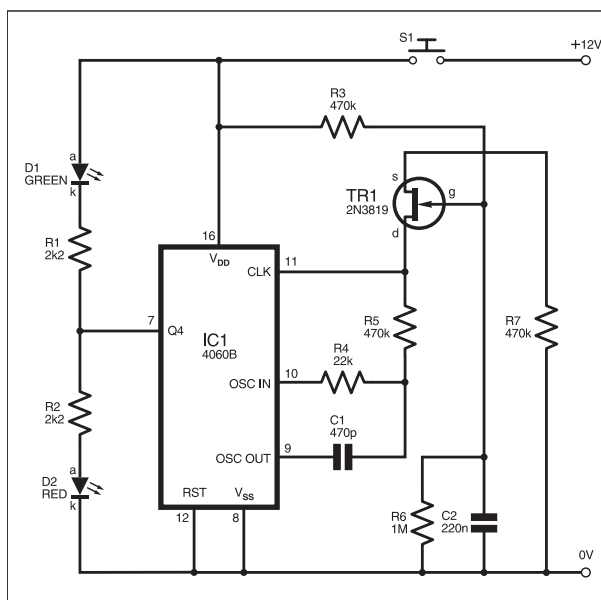

Fig.6. Circuit diagram for a Yes-No Indicator
**T**HE circuit of Fig.6 produces a random "Yes" or "No" with a single button-press, which is displayed through a red or green l.e.d. The design has a number of advantages over similar circuits.